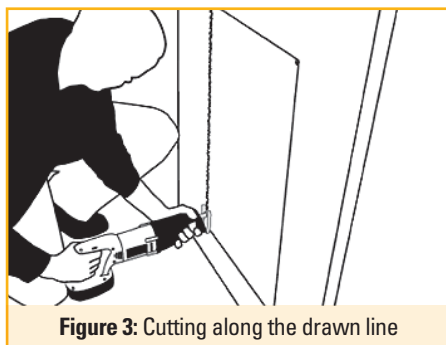

Figure 3: Cutting along the drawn line
5. Cut along the line as shown in Figure 3. **Note:** Jigsaw needs to be level and straight when cutting the lines to ensure the two frames will align properly.